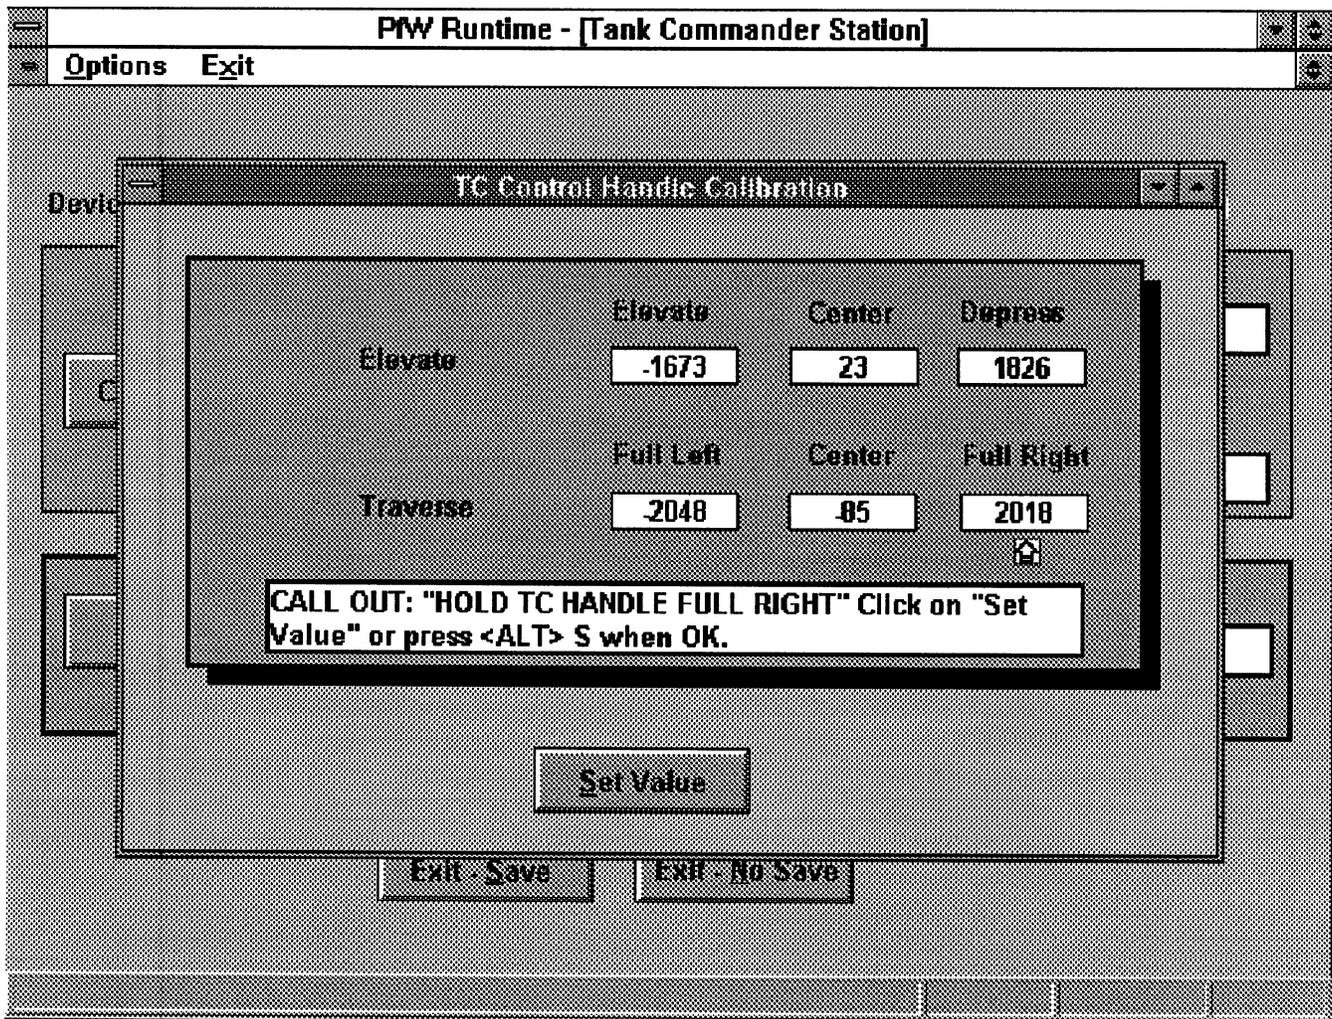

Figure 2-98. TC Control Handle Calibration Screen
Figure 2-98 shows a typical calibration screen.
- (2) Control Handle Traverse Current Settings:
- (3) CWS Current Settings:
- c. Select the control to be calibrated by clicking on the control button or selecting it from the pull-down options menu. The calibration screen for the selected control displays. Figure 2-98 shows a typical calibration screen.
- (2) GNR-Control Handle Traverse Current Settings:
- (3) GNR-GPS Intensity Current Settings:
- (4) GNR-TIS Intensity Current Settings:
- c. Select the control to be calibrated by clicking on the control button or selecting it from the pull-down Options menu. The calibration screen for the selected control displays. Figure 2-98 shows a typical calibration screen.